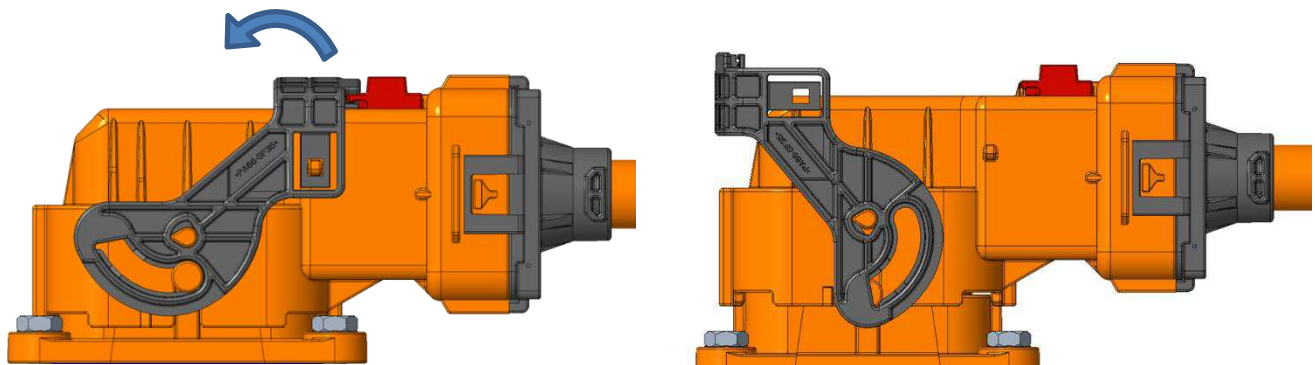

Figure 24: Lever from Close to Open
2. Rotate the lever away from the connector body until it is completely in the open position as shown in Figure 24.